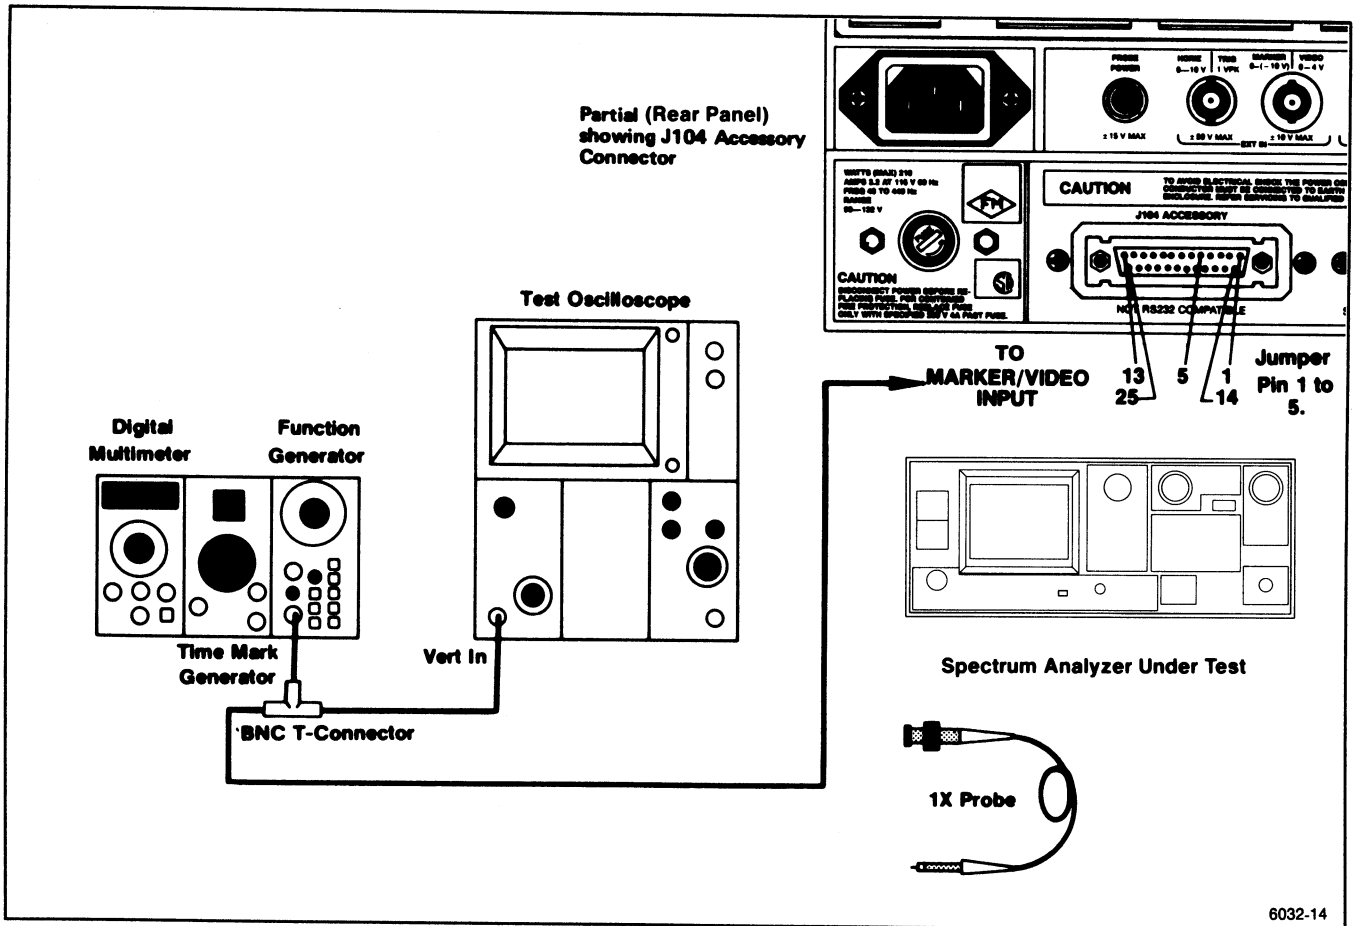

Figure 5-4. Test equipment setup for adjusting the Deflection Amplifier.
a. Connect the test equipment as shown in Figure 5-4. Set the TIME/DIV to 1 ms. Position the trace on the bottom graticule line.